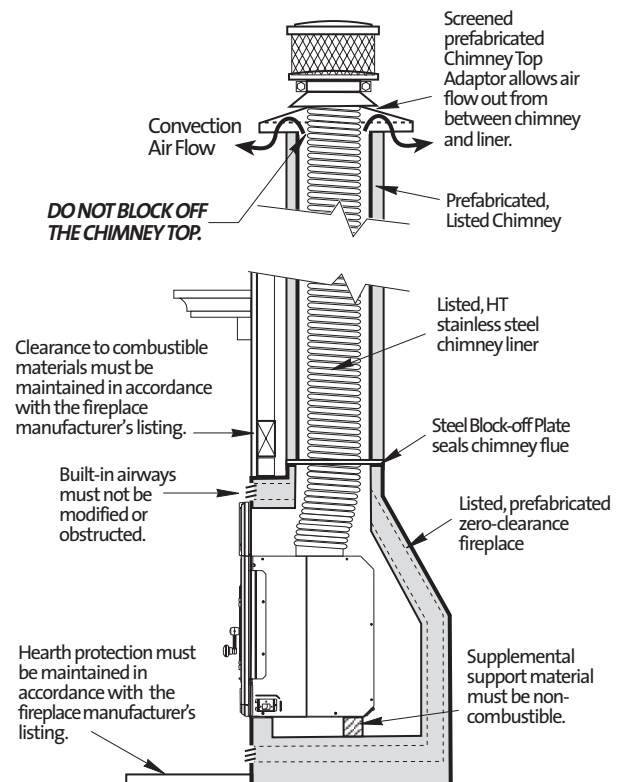

Figure 3. Prefabricated fireplace installation requirements.
- THE TOP PLATE OF THE LINER SYSTEM MUST NOT BLOCK AIRFLOW BETWEEN THE COOLING WALLS OF THE FACTORY-BUILT AIR-COOLED CHIMNEY SYSTEM. These airways MUST be left open under all conditions to maintain proper air-cooling of the chimney system. See fig. 3.